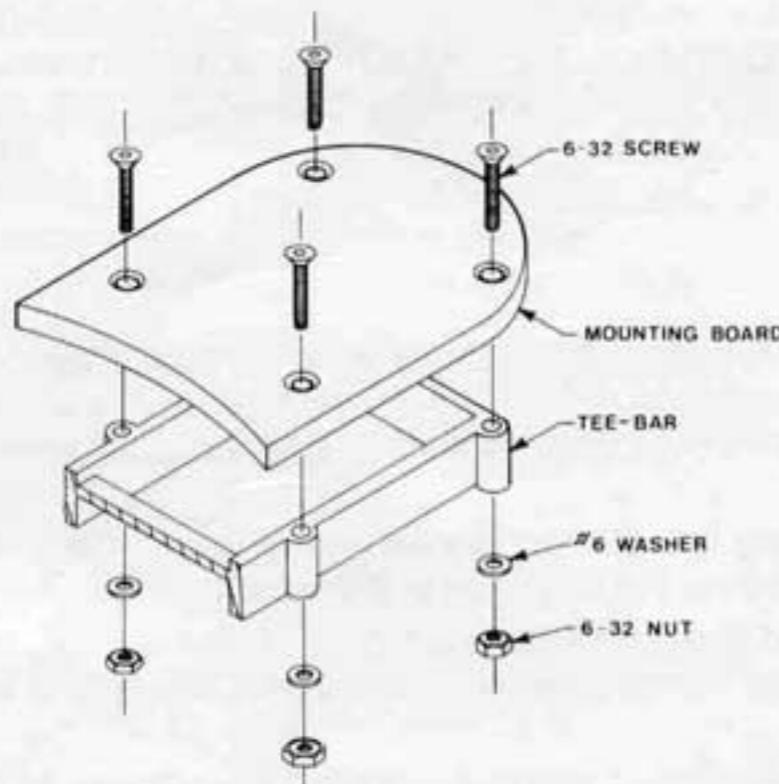
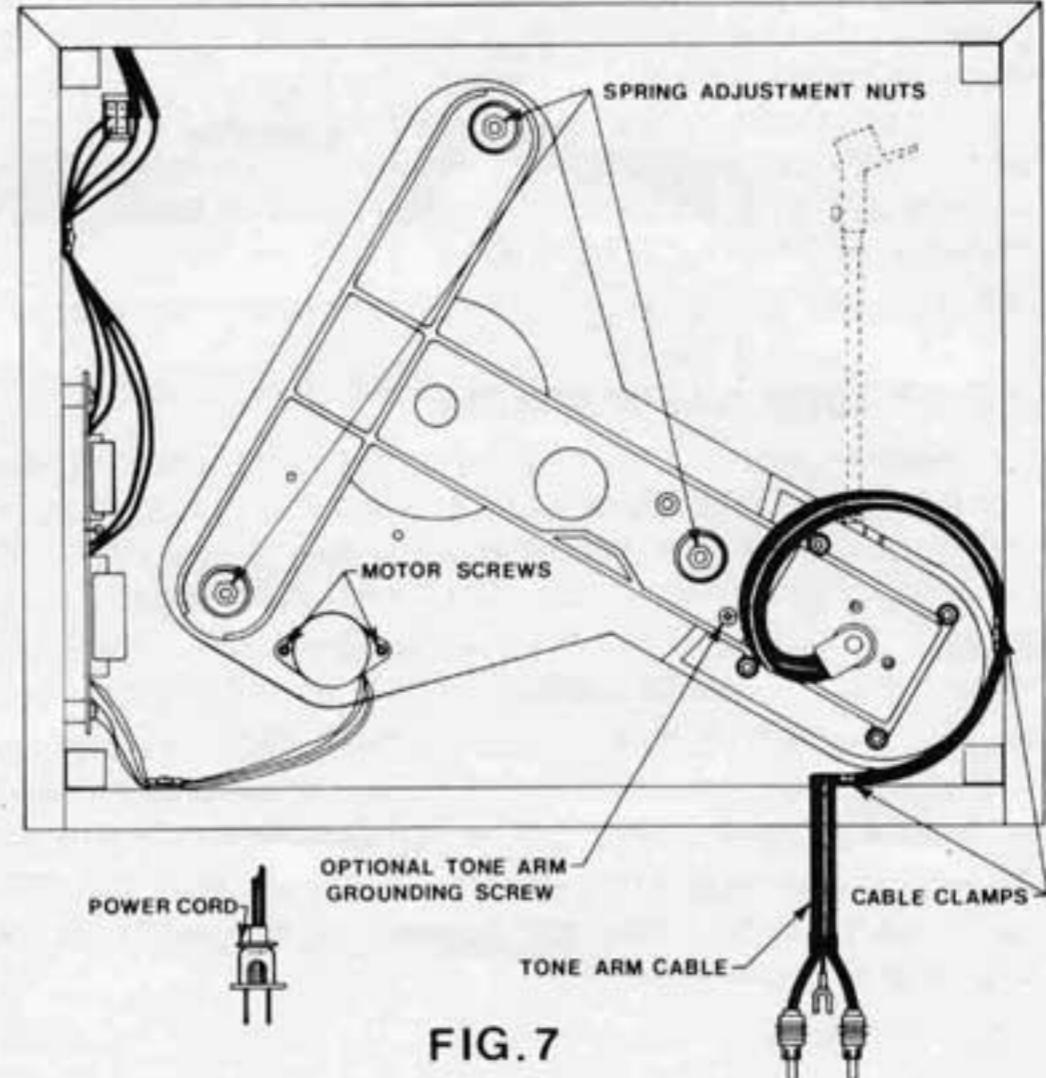
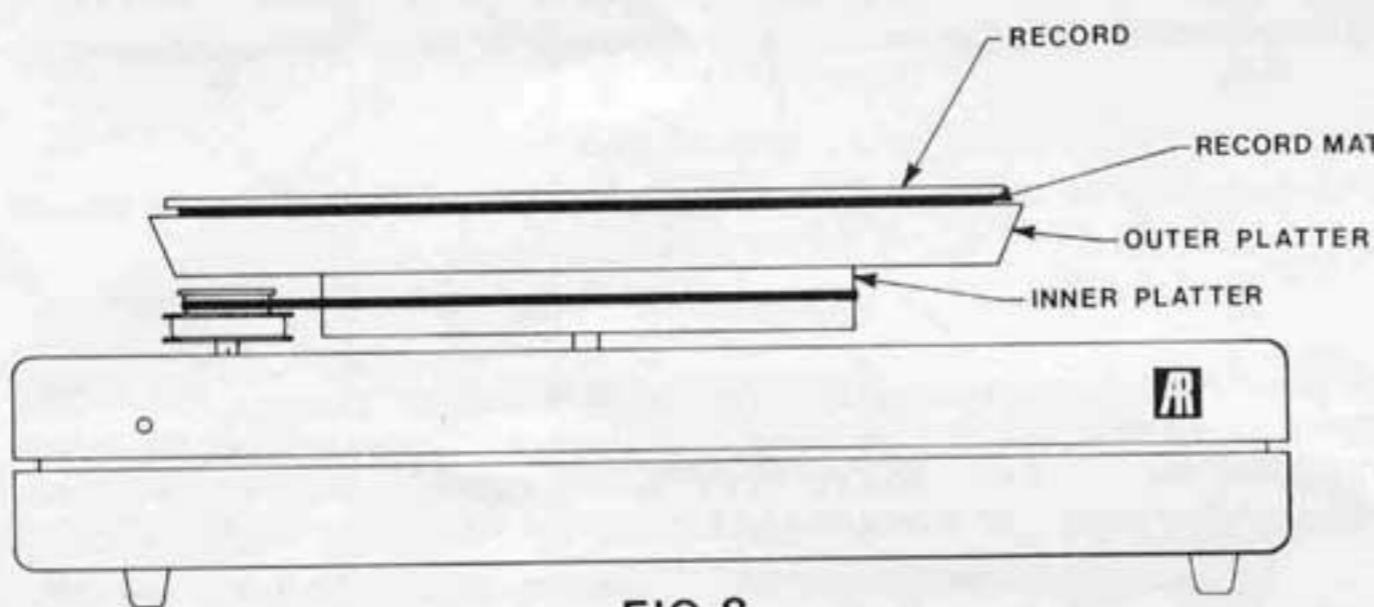
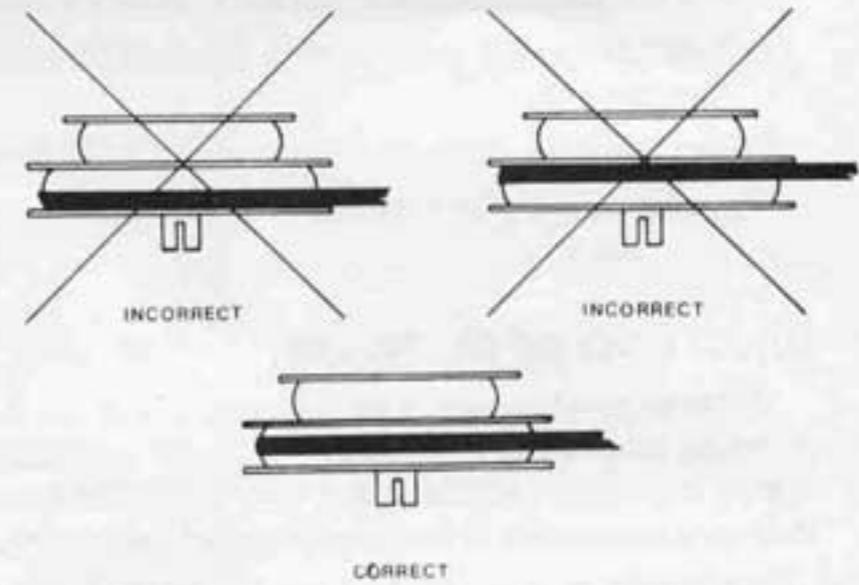

FIG.6
FIG.7
FIG.8
FIG.9
- (2) Support the turntable base 6 to 12 inches above a table or similar surface such that access is given to the inside. This can be achieved with books under each end, ensuring that the base is firmly seated and that the upper surface of the base is perfectly level. Use a spirit level (not supplied) to ensure a level surface.
- (3) Using the instructions and/or template(s) supplied with your tonearm mark all the holes that will be needed on the tonearm mounting board and then remove the board. The board is held in place by four allen screws which pass through the tee bar and are held with four nuts and washers (fig 6). The $\frac{5}{64}$ inch allen wrench supplied in the accessories fits the screws.
- (4) Drill and/or cut the board as required.
- (5) The tonearm may now be mounted on the board and the board replaced, ensuring that the four allen screws are tightened securely. Set up the tonearm following the manufacturer's instructions.
- (6) The tonearm cables can now be installed. The cable(s) are held by the two clamps and screws provided in the accessories which should be screwed into the interior side or underside of the base. The cable should be positioned with as much free cable as possible between the tonearm base and the clamps to allow free movement of the suspended tee-bar. This free cable should not touch any part of the tee-bar, base, or bottom cover. One way of achieving this is shown in fig 7, although different tonearms and cables will require different layouts to achieve the free movement and a degree of experimentation is necessary. It may be found that your tonearm has a very deep base that would make the cable touch the bottom cover. This can be overcome by cutting a clearance hole in that cover to allow the cable loop to fall below the cover level (the feet give an extra clearance of about $\frac{1}{2}$ inch if this is done).
- (7) Next the turntable itself should be made operational as covered in section (B).
- (8) The suspension should now be adjusted. Ensure that the drive belt, outer platter, turntable mat and a record are in place for this step. The (tee-bar — platter — tonearm) subsystem is levelled using the three nuts under the springs on the underside of the deck (fig 7). These should be turned until the outer platter is sitting with its outer edge approximately $\frac{1}{4}$ inch above the top surface of the base. The precise dimension is not important but it is critical that it be absolutely constant all around the perimeter of the platter as this ensures that the playing surface is level.
- (9) The tonearm board should have an approximately even gap around it. If it is too close in one area, its position can be adjusted by rotating one or more springs whilst keeping the nuts from turning with them.
- (10) Remove the record, mat, and outer platter and replace the bottom cover and feet.
- (11) Place the outer platter UPSIDE-DOWN on the inner platter and put the mat and record on top of it. The drive belt and pulley is now visible (fig 8). Connect the line cord to the outlet and switch on the turntable. The drive belt should run on the crown of the pulley and not rub against either flange (fig 9). If this is not so, unplug the line cord, remove the bottom cover again and shim the motor to correct matters. The motor may be loosened by the two screws shown in fig 7 and then shimmed with piece(s) of paper before retightening the screws. If the belt rubbed the bottom of the pulley, then the side away from the platter will need shimming and vice-versa. IN ORDER TO AVOID THE POSSIBILITY OF ELECTRIC SHOCK, REMEMBER TO ALWAYS MAKE SUCH ADJUSTMENTS WITH THE POWER CORD DISCONNECTED AND DO NOT RE-CONNECT IT UNTIL THE BOTTOM COVER HAS BEEN REPLACED.